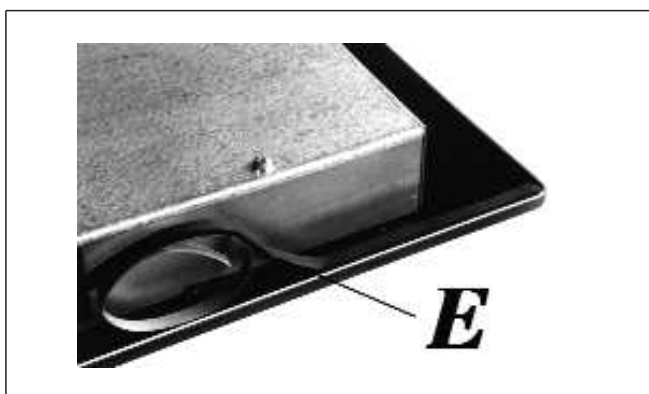

FIG. 5
- Overturn the hot plate and correctly position seal "E" (fig. 5) under the edge of the hot plate itself, so that the outer side of the seal perfectly matches the outer edge of the hot plate. The ends of the strips must fit together without overlapping.